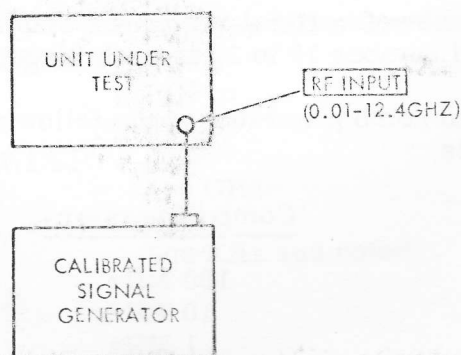

Figure 6-2. Performance Checks with Signal Generator
- (a) Connect calibrated signal generator (3, table 6-2) to RF INPUT (see figure 6-2), and set for 400 MHz.
- Connect signal generator (3, table 6-2) at RF INPUT (Fig. 6-2) and apply 400 MHz signal. Adjust signal level to obtain -40 dB peak amplitude on LOG scale.
- (3) Place INPUT ATTEN - dB to 40, and step IF ATTEN - dB to 10, 20, and 30, recording display amplitude at each position.
- (4) Signal peak shall shift in 10 dB increments, corresponding to attenuator settings. Deviation at each position shall not exceed  $\pm 2$  dB ( $\pm 0.2$  division). ✓
- (1) Connect calibrated signal generator (3, table 6-2) at RF INPUT (Fig. 6-2), set INPUT ATTEN - dB to 0, and apply 400 MHz signal at calibrated power level of -65 dBm.
- (2) Adjust IF ATTEN - dB to position signal peak on screen at an amplitude reading of 6 on the left hand (LIN) scale.
- (3) Advance INPUT ATTEN - dB one step to 10, increase signal generator level to -55 dBm, and record exact level setting required to restore signal peak on screen.
- (4) Repeat step 3 in successive steps of INPUT ATTEN - dB of 20, 30, 40, 50, and 60 dB: and increases of signal level correspondingly to -45, -35, -25, -15, and -5 dBm.
- (5) Deviations of power level to restore signal peak shall not exceed  $\pm 0.5$  dB, or  $\pm 2\%$  of attenuator setting, whichever is greater.
- (1) Connect calibrated 400 MHz signal generator (3, table 6-2) at RF INPUT (Fig. 6-2).
- (2) With IF ATTEN - dB all OUT, adjust signal generator signal level to obtain amplitude reading of signal peak on screen of 6 divisions.
- (3) Set IF ATTEN - dB to 1 dB, adjust input signal level on signal generator to restore signal peak reading of 6, and record incremental signal level on signal generator.
- (4) Repeat step 3 for IF ATTEN - dB settings of 3, 6, 11, 21, and 41.
- (5) Incremental signal level for each step shall be within  $\pm 0.5$  dB of the value of the step (See record form).